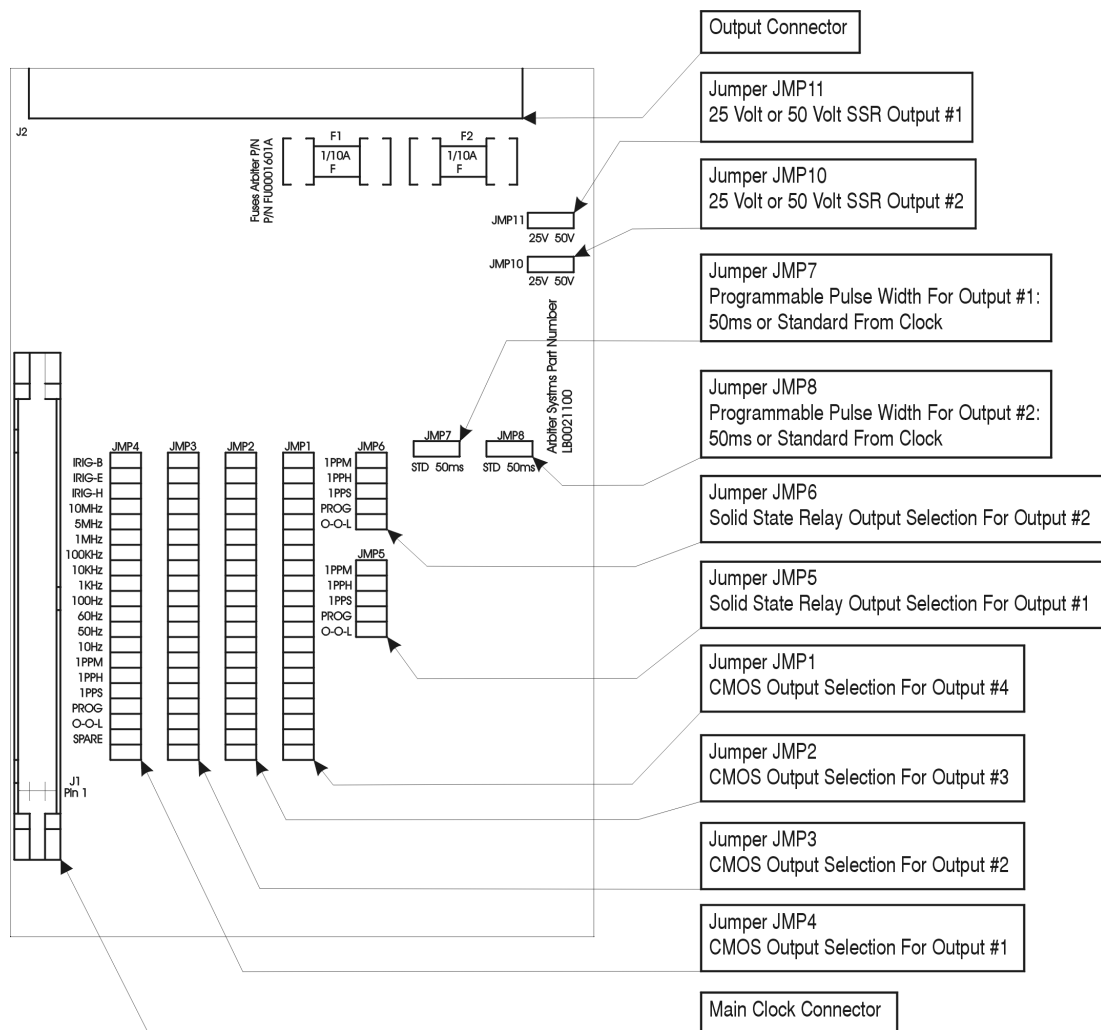

Figure C.19: Option 29 Jumper Locations
Available Signals:	Jumper selectable to any of the digital signals available from the clock mainframe plus on board generation of 1 PPM and 1 PPH for the 1093 clock models. See Figure C.19 for Jumper location and selections.
3. Locate the appropriate Jumper using Figure C.19 and move the jumper to the desired setting.